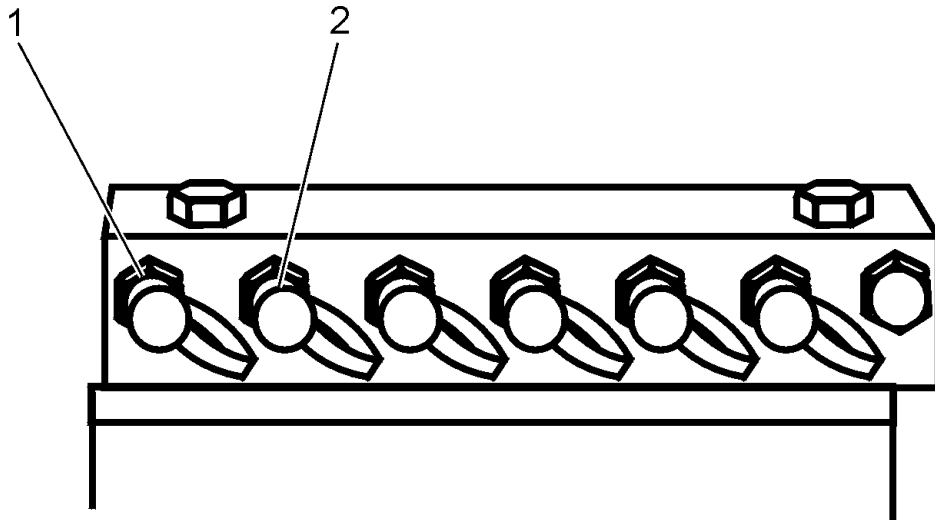

Fig. 3.2. Diagnostic Center – Tow and Pressure Check Ports
The diagnostic center (Fig. 3.2) has a quick couplers  $R_B$  and  $L_B$  for externally applying hydraulic pressure to the LH and RH brake spools to release them prior to towing per below specified procedure.
2. Open the diagnostic center cover on the LH side of the machine and connect a lubricating fitting and pressure gauge to one of the quick couplers (port 1 or 2, Fig. 3.2).
4. Pump sufficient grease into one of the ports (1 or 2 in Fig. 3.2.) to release the brakes. Connected pressure gauge should show the pressure of 830 - 1030 [kPa]. The amount of grease required depends on the amount of pressure dissipation in the system.